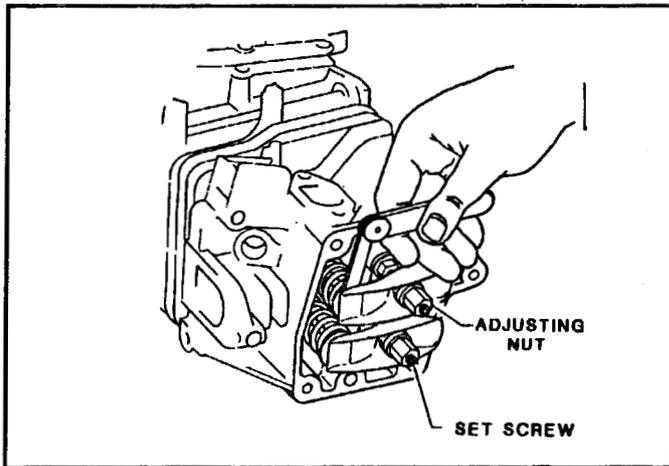

Figure 87
2. Turn the adjusting nut with a 10 mm wrench until you have achieved a clearance of .005" to .007" (.13 mm to .18 mm). See Figure 87.